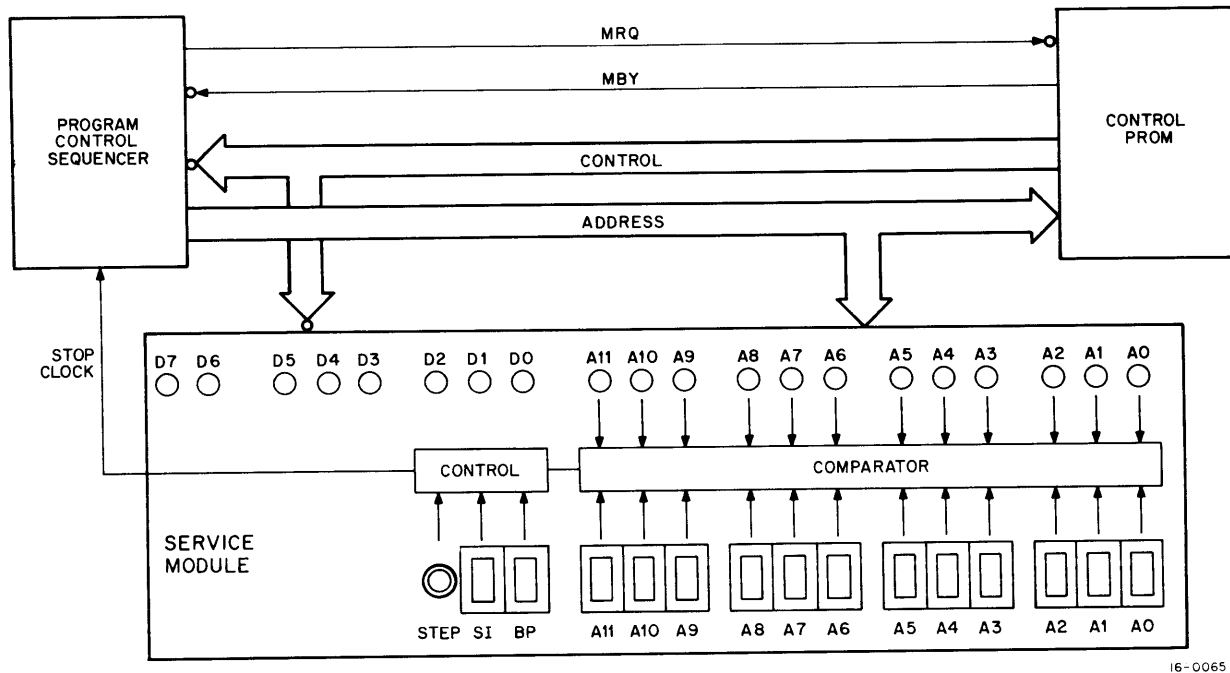

Figure 5-3 Service Module M7335, Application Diagram
**5.1.2.2 Service Module M7335** – The service module plugs into slot B01 via extender cable 7007222. The M7335 module (Figures 5-3 and 5-4) contains an 8-bit Data Register and a 12-bit Address Register. Bits 10 and 11 of the Address Register are not used; bit 9 of the Address Register is the page bit. When lit, PAGE1 is selected and the opposite is true for PAGE0. Bits 0 through 8 contain the address; bits 0 through 7 of the Data Register contain the numerical code of the instruction being performed. There are 12 address switches labeled A0 through A11 on the module, and these switches correspond to the address bit of the same number. Hence switch 0 and bit 0 both represent address bit 0. A switch labeled Break Point (BP) is used in conjunction with the address switches. All switches are asserted to a 1 when the white dot on the switch is visible. The pushbutton step switch is used when the switch labeled Single Instruction (SI) is asserted.